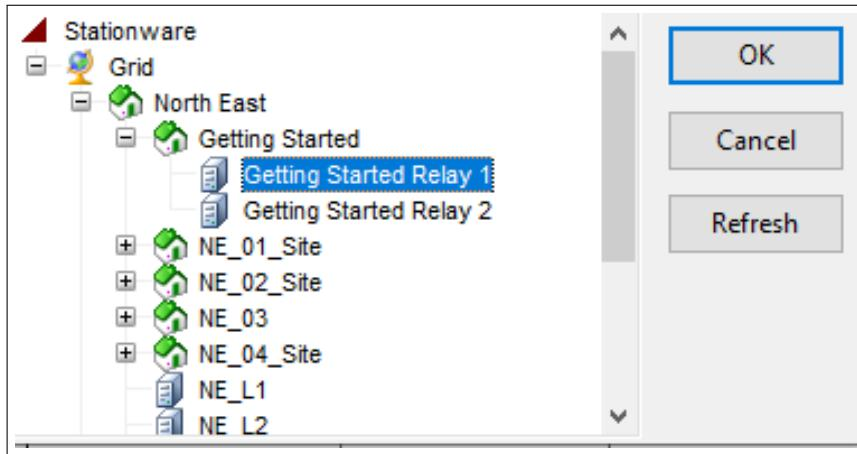

Figure 24.13.24: Browser dialog
**Select Device ID...** starts the Browser dialog (Figure 24.13.24) to link this device to a *StationWare* device. The dialog is subject of Section 24.13.6 : The Browser dialog.
A more convenient way is to use the Browser dialog shown in Figure 24.13.24. The dialog allows to browse through the *StationWare* location hierarchy and select a device. The hierarchy data is cached to minimise network accesses. Due to this caching it's possible that there may exist newly created locations or devices which are not displayed in the browser dialog. The **Refresh** button empties the cache and enforces *PowerFactory* to re-fetch the correct data from the server.